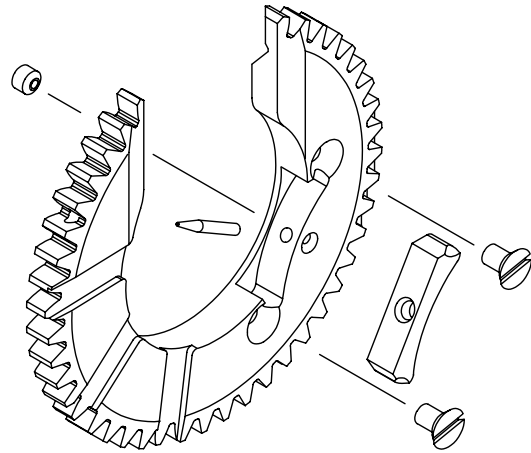

Figure 61 *Replacing the Ceramic Insert*
7. Seat the new ceramic insert into the pocket in the track of the rotor, with the beveled edge facing out. See Figure 61.